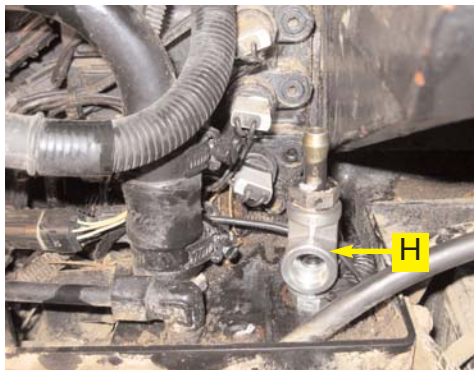

Figure 3e. Installed tank fitting.
- d. Remove the nipple fitting from the filter base and install the run tee (**H**) in its place. (Figure 3e.)